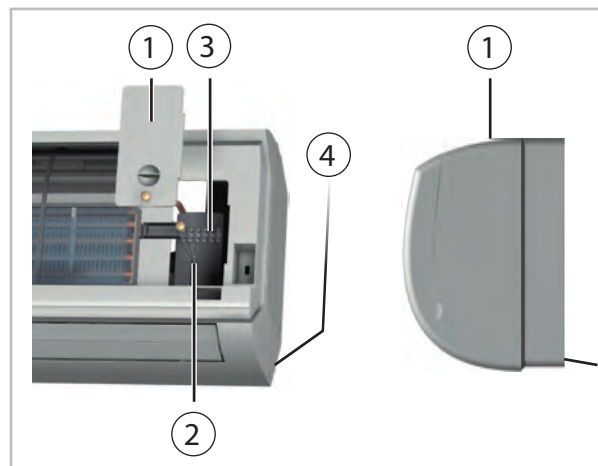

Fig. 37: Connecting the indoor unit
2. ➤ Remove the covers on the right-hand side (Fig. 37).
4. ➤ Connect the customer-laid control line to the terminals (Fig. 37).